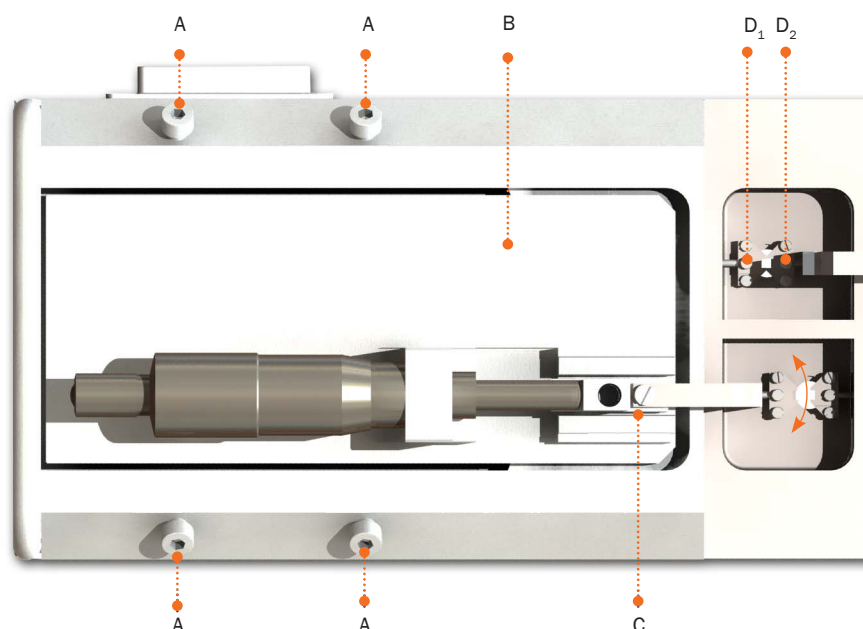
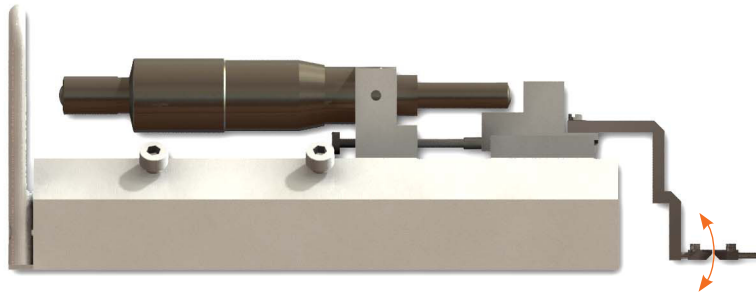

Figure 4.1 Myograph unit - screws for adjusting supports
Figure 4.2 Myograph unit displaying vertical adjustment
Adjustment of the supports is performed using the following step-by-step procedure. Please note that the amount of force on the screws should be very little to avoid breaking the threads. The procedure is illustrated in figure 4.1 below.
3. Loosen screw (C) on the linear slide to roughly match the linear slide support to the force transducer support in the horizontal plane as illustrated in figure 4.1 below. Tighten the screw before proceeding with step 4).
4. The plate (B), on which the linear slide is mounted is balanced on top of a small stainless steel ball making it possible to finely adjust the linear slide support in all vertical and horizontal planes using the four Allen screws (A). Use the four Allen screws to make the final horizontal (figure 4.1 below) and vertical (figure 4.2 on next page) adjustments to match the linear slide support to the force transducer support. The correct matching of the supports is illustrated in figure 4.3 on next page.
2. Carefully remove the support connected to the transducer pin by loosening the screw on top of the support as illustrated in “Figure 4.1 Myograph unit - screws for adjusting supports” (D) on page 18.